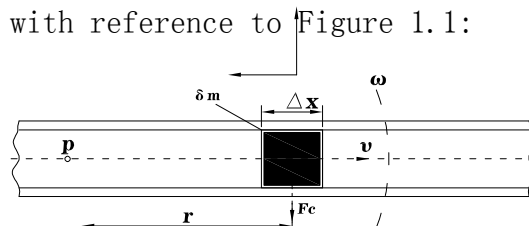

Figure 1-1
If a pipe is rotated around a point (P) while liquid is flowing through it (toward or away from the center of rotation), that fluid will generate an inertial force, with reference to Figure 1.1:
The force generated by tangential acceleration is Coriolis force, its value is equal to  $F_c = 2wv \delta_m$ . In figure 1.1 fluid  $\delta_m = \rho A \times \Delta X$ , So Coriolis force can be expressed as: